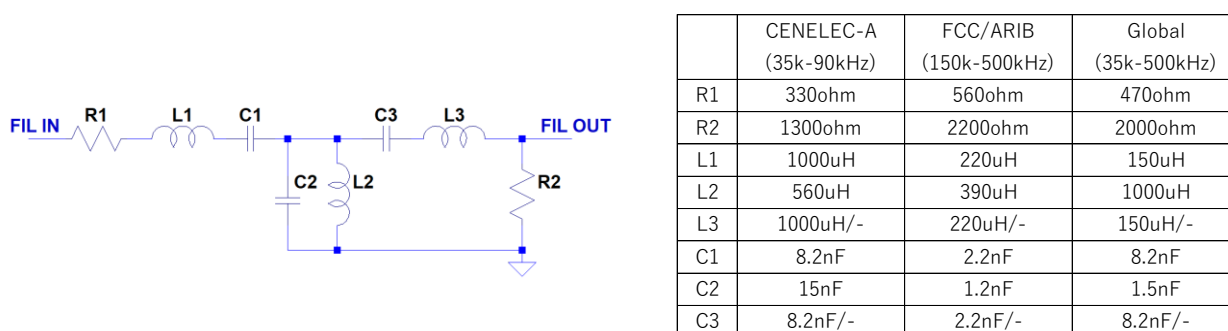

Figure 3-11 Configuration of RX-BPF and the circuit constant
- RX-BPF is used to suppress noise outside the frequency band used. When using ISL15102 for power amp of transmission, PLC Coupler needs to set the turns ratio of IC side: AC line side to 2: 1 due to the drive capacity of ISL15102. When using a 2: 1 PLC Coupler, the input impedance of the PLC board seen from the AC line side looks 1/4 compared to when using a 1: 1 PLC Coupler, so the input impedance drops. Therefore, in order to reduce the decrease in input impedance, select the RX-BPF constant for the frequency band used as shown in Figure 3-11.